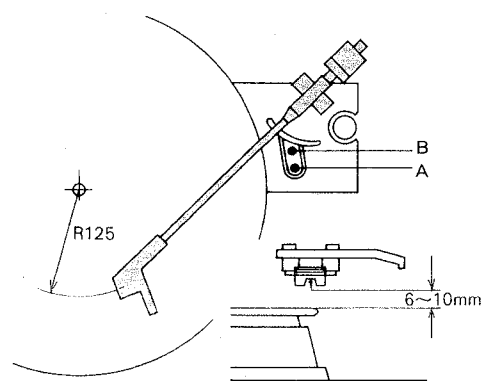

Fig. 6
- (a) Set the cueing knob to ▽ position and move the tonearm over the record surface (Fig. 6). The clearance between the stylus point and the record should measure between 6–10 mm (0.24–0.39 in.). This dimension is set by screw A (Fig. 6).
- (b) Move the tonearm to the end of the record and slowly rotate the turntable platter until the tonearm starts returning. Stop the platter rotation when the tonearm is in the approximate position as above. Again measure the distance between the stylus point and the record surface. This measurement should be approximately the same clearance 6–10 mm (0.24–0.39 in.). If the height needs to be adjusted, adjust screw B (Fig. 6).